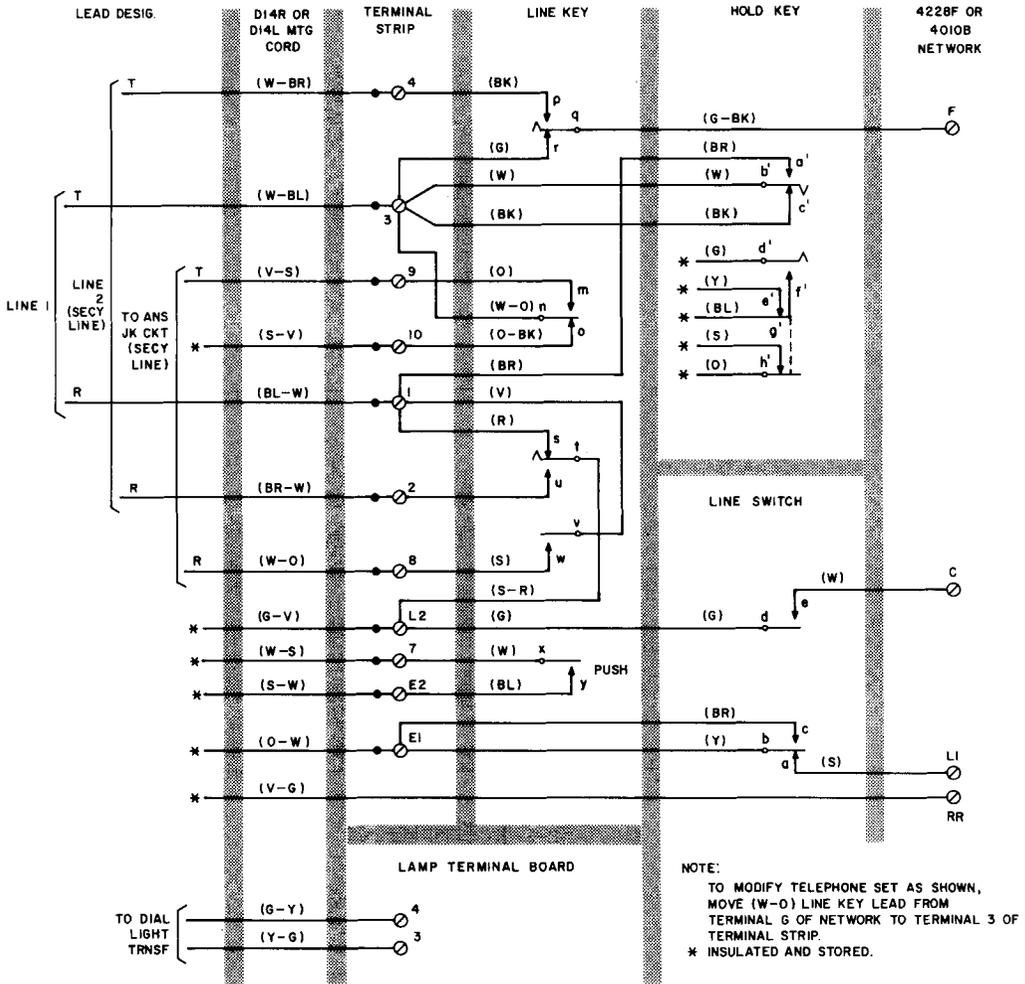

Fig. 3—712B Telephone Set, Connections, 1-Line Pickup, Hold, and Secretarial Service (Used Without 1A1 or 1A2 KTS)
- 712B Connections Fig. 3, 5, and 7.